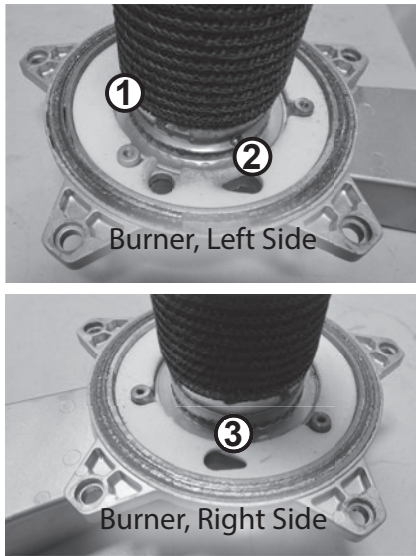

Figure 121 - Remove burner screws
20 Locate the three (3) screws securing the burner to the burner door as shown in Figure 121. Use a Phillips screwdriver to remove screws. Place screws aside in a safe place for reinstallation.